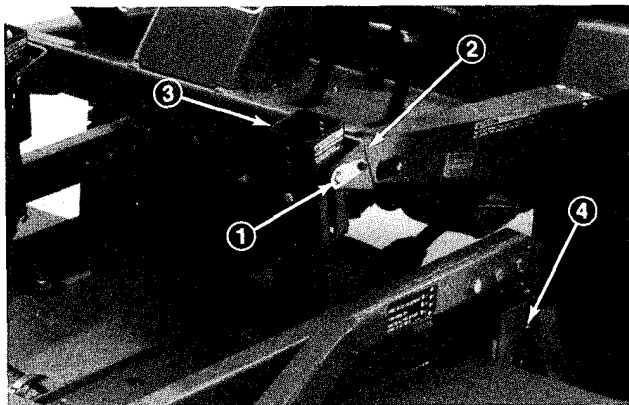

Figure 23
2. Disconnect counterbalance from traction unit, remove lock pins from brackets, separate spring tension assemblies from brackets and lay them down on the deck. Loosely secure lock pins to brackets to prevent losing them (Fig. 23).
3. Lower cutting unit, remove (4) pins from height-of-cut brackets (Fig. 23).